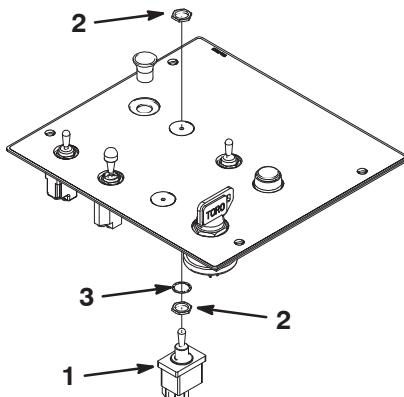

Figure 4
3. Install the toggle switch into the control panel so the terminals are positioned to the front (Fig. 4).